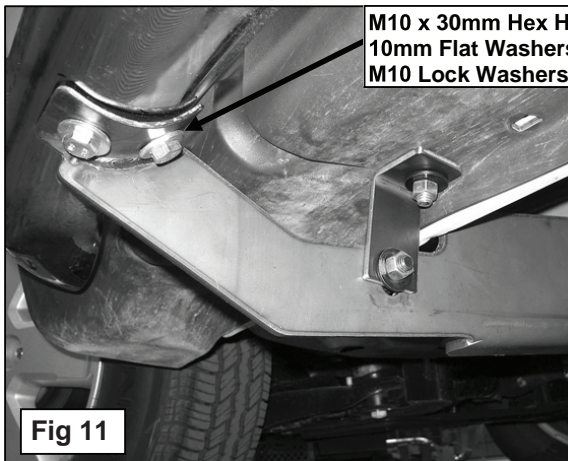

Fig 11
9. Carefully position the driver Sidebar onto the Mounting Brackets and secure using (4) M10 x 30mm Hex Head Bolts, (4) 10mm Flat Washers and (4) M10 Lock Washers, **(Figure 11)**. Snug but do not tighten hardware at this time.